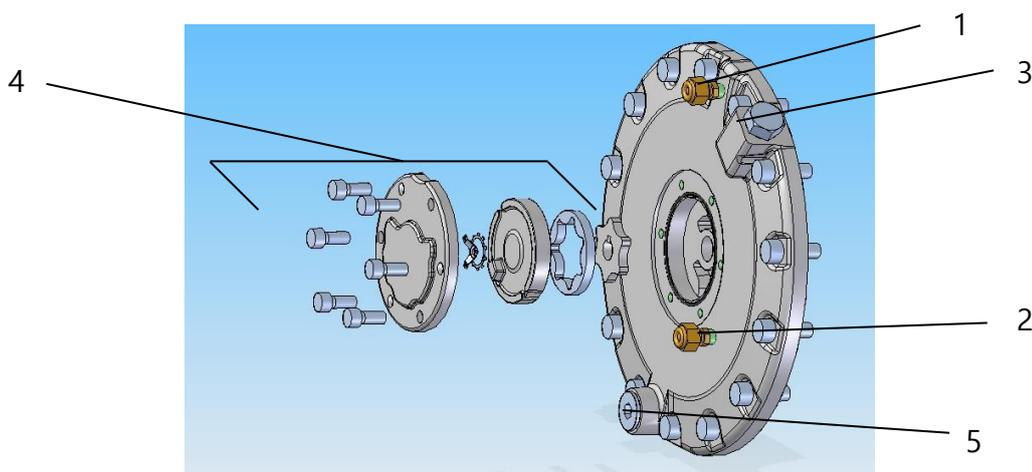
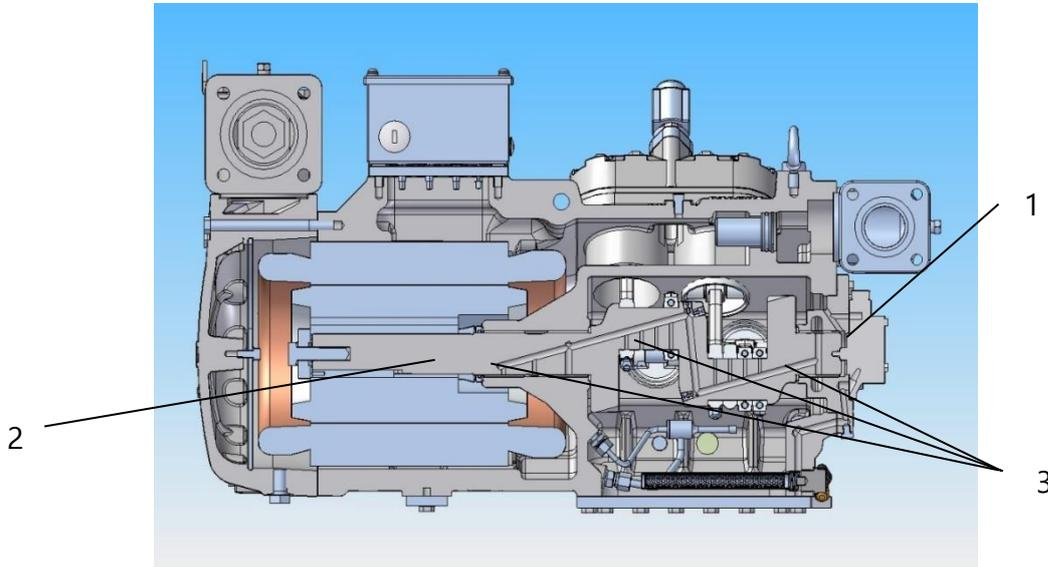

Fig. 12: Gear pump for compressors PP4-L/HFxx with forced lubrication
Fig. 14: Compressor model PP4-L/Hxx PP6-L/Hxx PP8-L/Hxx with pump lubrication
The connections for electronic differential pressure device (option) are machined over the casing cap (ref. 3 in Fig. 12).
The oil gear pump (rif. 1 in Fig. 14) is a separate part assembled onto the discharge sleeve bearing cover casing.
A cross section of a compressor model with pump lubrication is shown in the Fig. 14.
The measurement of the differential pressure P_{oil} has to be done between (1) and (2) connections shown in Fig. 12 **Errore. L'origine riferimento non è stata trovata.** or Fig. 14. The differential oil pressure value P_{oil} depends on the size of compressor, on the oil temperature and viscosity and also on the amount of refrigerant dissolved in it. A correct value for this pressure should be between 2,8 and 4,1 bar (lower values are normally due to high oil temperature)